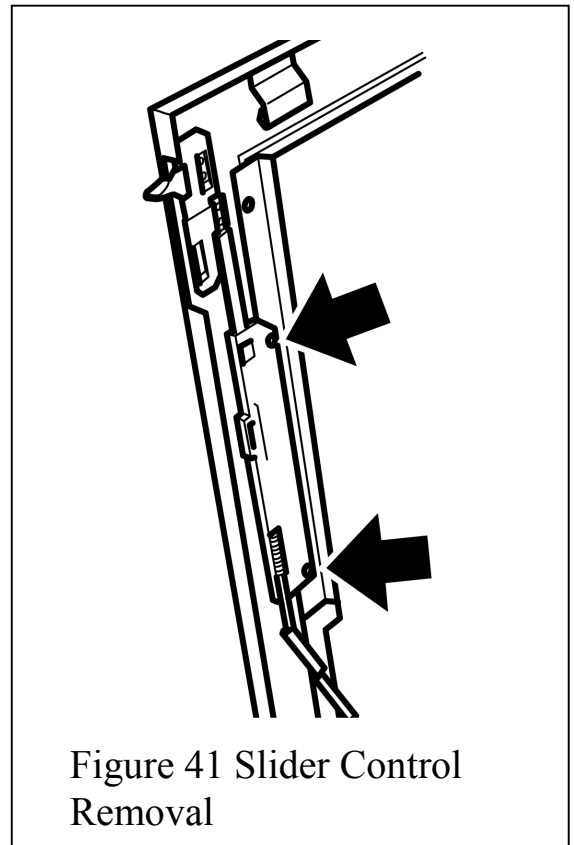

Figure 41 Slider Control Removal
- Detach the slider control from the firefront surround by removing two screws (See figure 41)